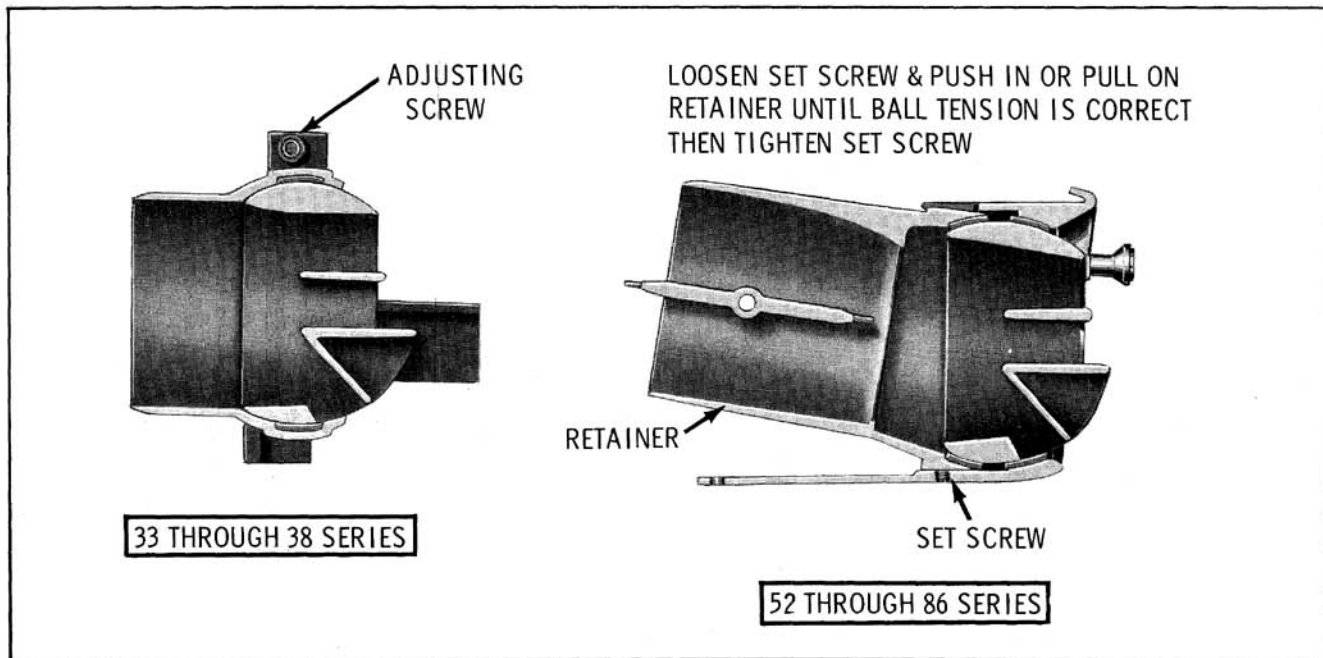

Fig. 14-64 Side Air Outlets
**SIDE OUTLETS Adjustment (Fig. 14-64 & 14-65)**
Nozzles should be free to rotate but tight enough to remain in a set position. If adjustment is required refer to Fig. 14-64.